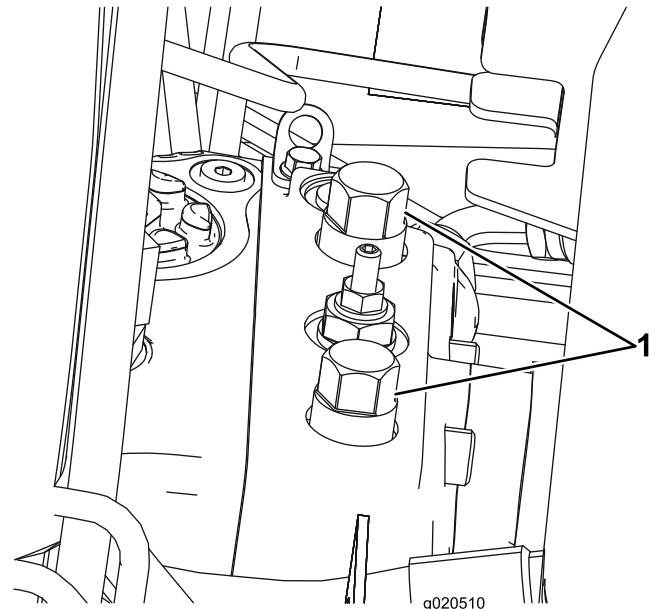

Figure 40
1. Open the hood and locate the bypass valves (Figure 40) on the top of pump, behind the battery/storage boxes.